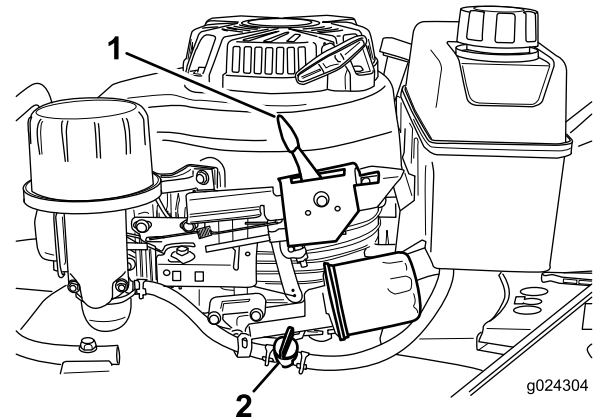

Figure 16
2. Open the fuel valve by moving the fuel-valve lever to the **right** (Figure 16).
Note: Close the fuel valve by moving the fuel-valve lever (Figure 16) to the **left** if you will not be starting the engine soon afterward.